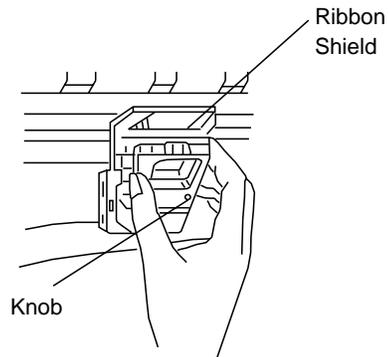

Figure 16-4. Placement of the Ribbon Cartridge
6. Holding the cartridge in position as shown in Figure 16-4, with the knob facing up and the ribbon shield facing the platen, fit the grooves on either side at the back end of the ribbon cartridge over the pins on the ribbon plate.